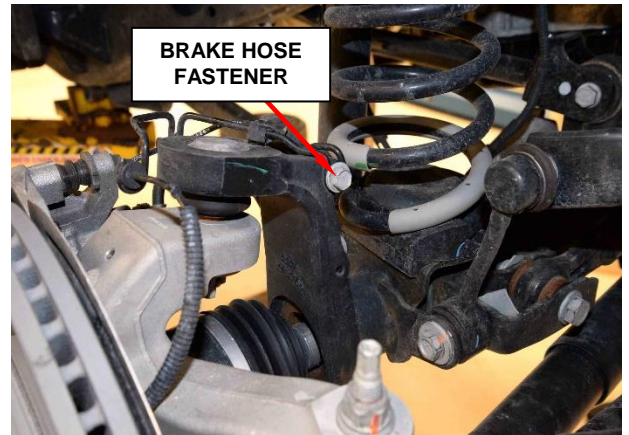

Figure 11 – Steering Knuckle Fastener
15. Remove the brake hose mounting fastener on the steering knuckle (Figure 11).
26. Position the brake hose wire form to the steering knuckle and install the bolt and tighten to 25 N·m (18ft.lbs.) (Figure 11).